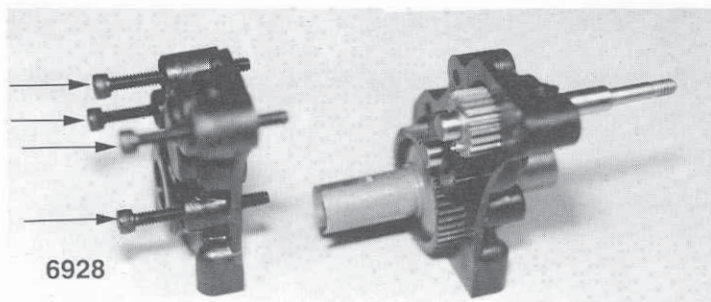

Fig. 58
□ **Fig. 58** Open bag F and remove the four #6928 4-40 x 1" socket head cap screws. Thread them into the bolt hole locations on the left hand case. Take the left hand case and install it over the gears and differential, making sure that each gear fits into the appropriate bearing or bushing. There is a locating ridge on the inside of the case to help line up the case halves. Screw the bolts in until they extend out the right side of the case 1/8".